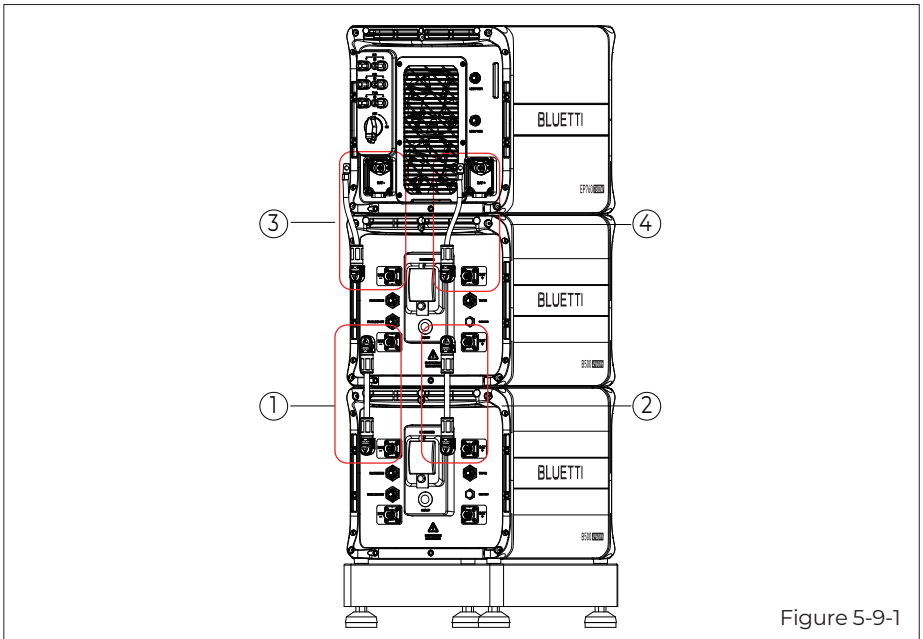

Figure 5-9-1
**Step 1:** Connect two B500 battery packs via the battery expansion cables - black cable for negative terminals, red for positive terminals. See “①” “②” of Figure 5-9-1 and 5-9-2.
**Step 2:** Connect the top B500 to EP760 inverter via the battery power cables - black cable for negative terminals, red for positive terminals. See “③” “④” of Figure 5-9-1 and 5-9-2.